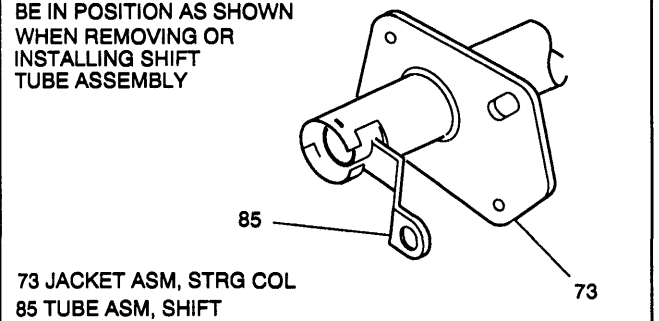

Figure 20 - Shift Tube Lever Position
NOTICE: Shift tube lever must be in position to clear jacket assembly (73) when removing shift tube (85). Forcing lever against jacket may cause damage to jacket assembly (73). (See Figure 20)
15. Shift tube (85) using J 23072.
16. Lock plate (68).
17. Wave washer (69).
18. Gearshift lever bowl (71) with gearshift bowl shroud (72).
19. Shift lever spring (70) from bowl (71).
20. Shroud (72) from bowl (71).
NOTICE: Shift tube lever must be in position to clear jacket assembly (73) when installing shift tube (85). Forcing lever against jacket may cause damage to jacket assembly (73). (See Figure 20)
6. Shift tube (85) using J 23073-01.